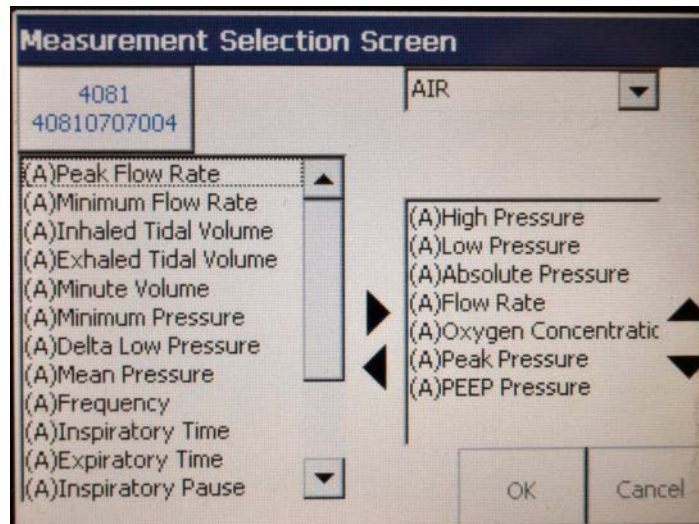

Figure 8-2: Measurement Selection Screen (Certifier FA Plus)
1. Touch any parameter on the analyzer touch screen to display the Measurement Selection Screen (Figure 8-2).